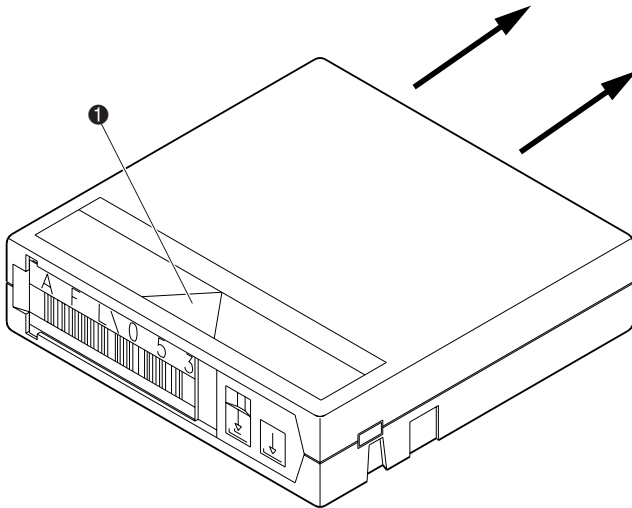

Figure 2-12. Installing tape cartridges
Place a tape cartridge in each fixed storage bin (❶ Figure 2-12) along the back wall of the library and on the inside the front door. Be sure all cartridges are properly oriented and seated in the bins.
4. With the load port door open, place the tape cartridge in an available load port magazine slot. Figure 2-12 shows the proper orientation for inserting a tape cartridge into a fixed storage bin.